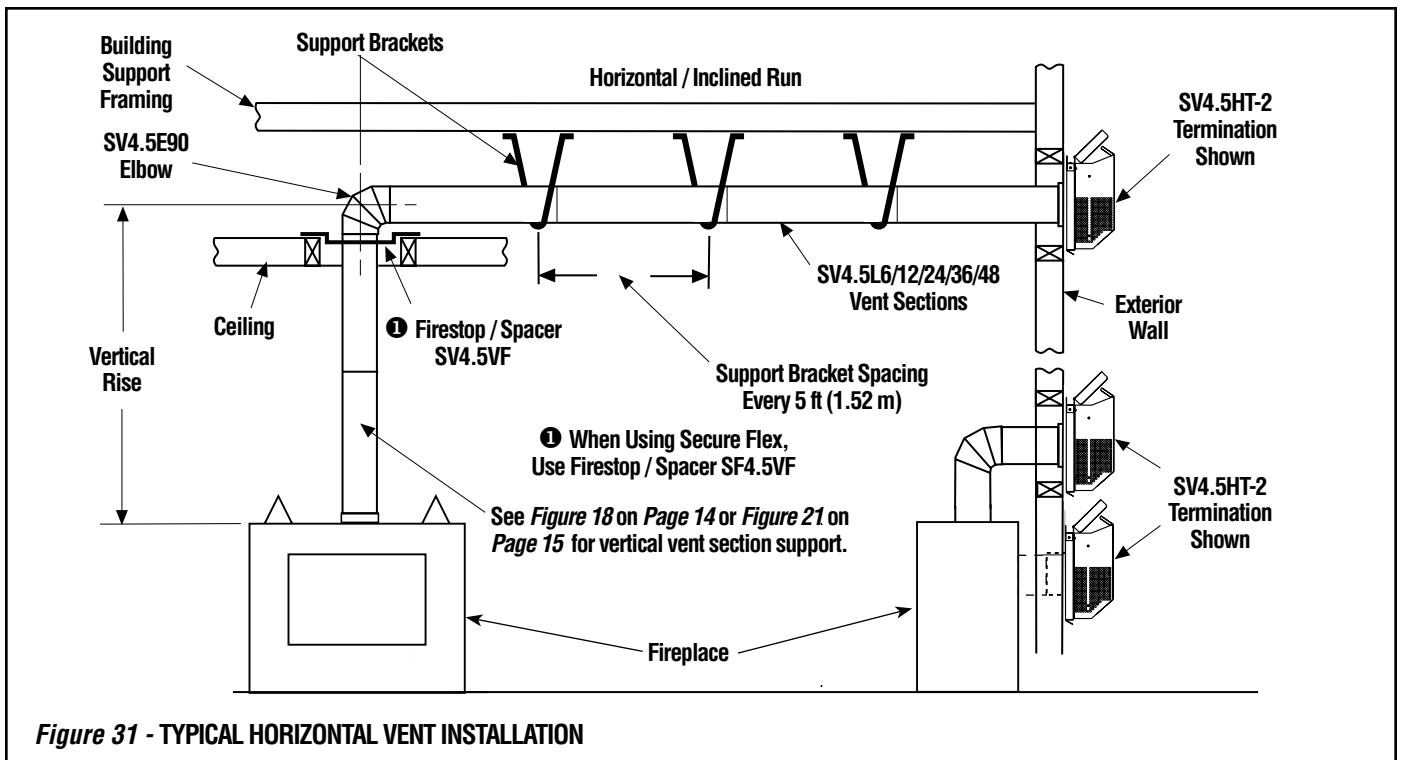

Figure 31 - TYPICAL HORIZONTAL VENT INSTALLATION
G. Continue installation of horizontal/inclined sections - Continue with the installation of the straight vent sections in horizontal/inclined run as described in **Step C**. Install support straps every 5 ft. (1.52 m) along horizontal/inclined vent runs using conventional plumber's tape. **See Page 19, Figure 31. It is very important that the horizontal/inclined run be maintained in a straight (no dips) and recommended to be in a slightly elevated plane, in a direction away from the fireplace of 1/4" rise per foot (20 mm per meter) which is ideal, though rise per foot run ratios that are smaller are acceptable all the way down to at or near level.** Use a carpenter's level to measure from a constant surface and adjust the support straps as necessary.
Figure 31, and Figures 34 to 40 on Pages 21 to 23 and their associated Horizontal Vent Table illustrate the various horizontal venting configurations that are possible for use with these appliances. Secure Vent pipe applications are shown in these Figures; Secure Flex pipe may also be used. A Horizontal Vent Table summarizes each system's minimum and maximum vertical and horizontal length values that can be used to design and install the vent components in a variety of applications.
I. Continue installation of horizontal/inclined sections - Continue with the installation of the straight vent sections in horizontal/inclined run as described in **Step E**. Install support straps every 5 ft. (1.52 m) along horizontal/inclined vent runs using conventional plumber's tape. See **Figure 31**. **It is very important that the horizontal/inclined run be maintained in a straight (no dips)** and recommended to be in a slightly elevated plane, in a direction away from the fireplace of 1/4" rise per foot (20 mm per meter) which is ideal, though rise per foot run ratios that are smaller are acceptable all the way down to at or near level.